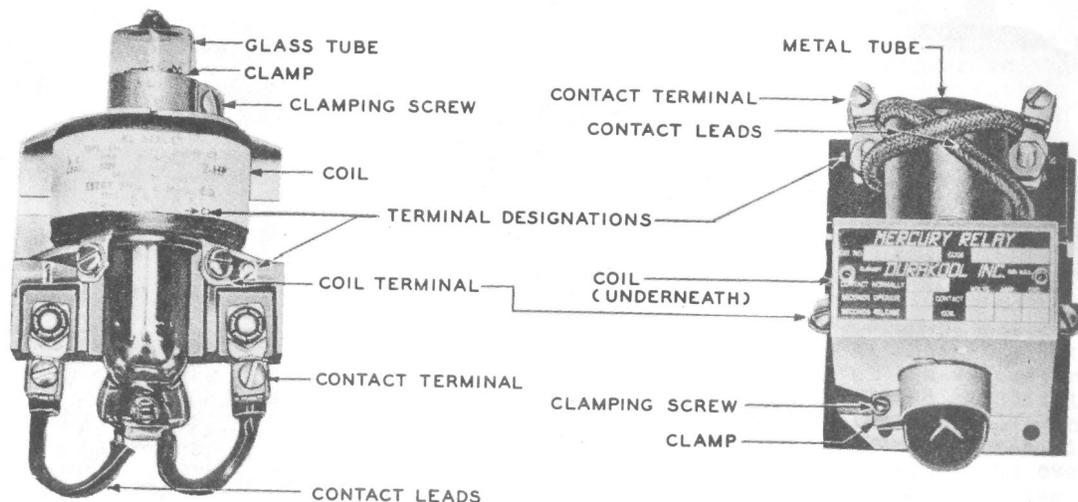

FIG. 1 - KS - 5721 RELAYS
- 1.02 It is reissued to add information on normally closed relays and to bring the section generally up to date. Fig. 1 has been changed and Fig. 2 has been added. Additions and significant changes are marked with arrows.